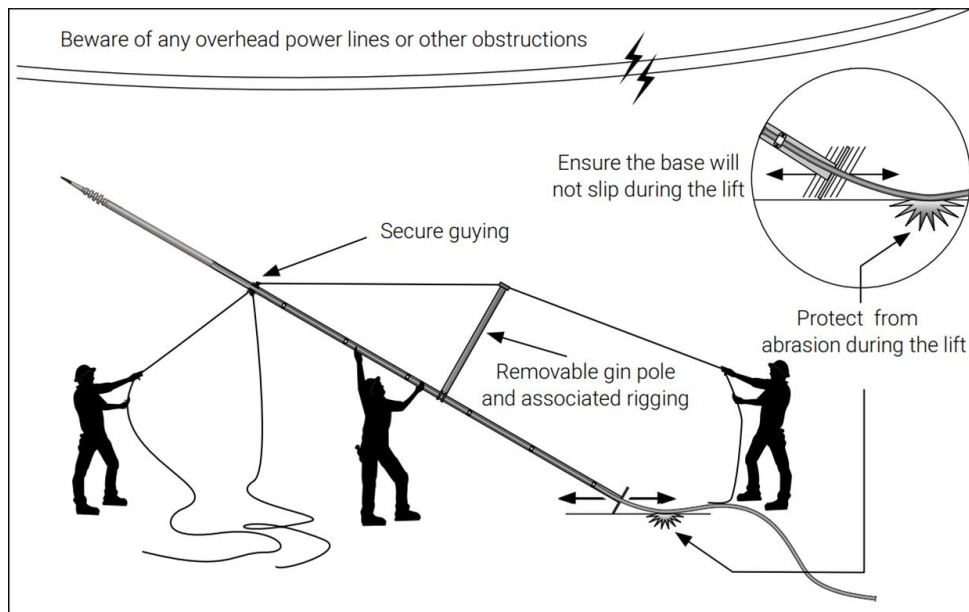

Figure 2
11. Any extra rigging that is required for the lift is removed only after the mast is in place. It may be necessary to use a gin pole arrangement to assist when lifting the mast, especially if the mast is over 5 m (20 feet) in height or is being lifted from a sloped surface. A typical arrangement is shown in Figure 2. When using a crane to lift the mast into position, ensure that: